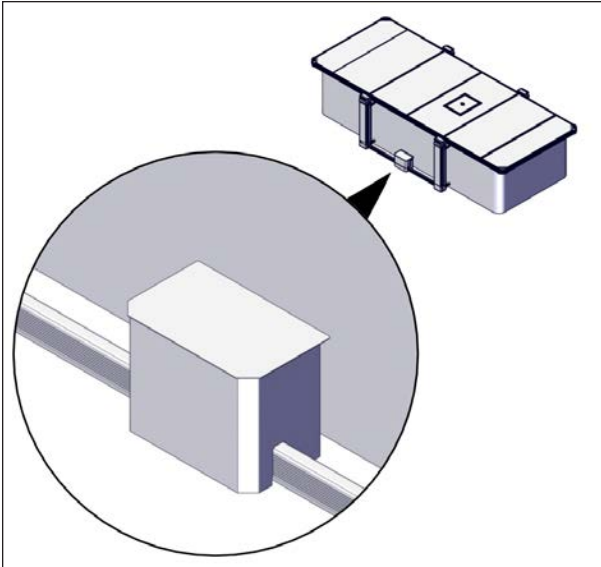

FIGURE 89: CONTROL BOX HOUSING INSTALLATION
6. Slide the control box housing onto the U-frame, see Figure 89.